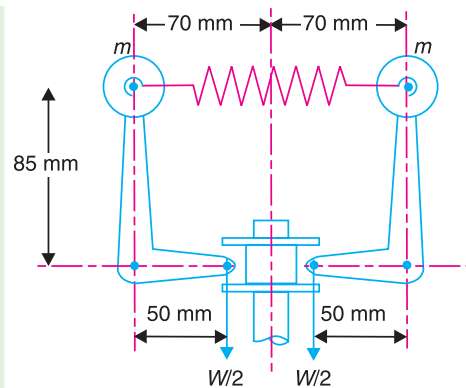

Fig. 18.22.
**Example 18.18.** Fig. 18.22 shows diagrammatically a centrifugal governor. The masses 'm' are directly connected to one another by two parallel and identical close coiled springs, one on either side. In the position shown, with the mass arms parallel to the axis of rotation, the equilibrium speed is 900 r.p.m. Given ball circle radius = 70 mm ; length of ball arm = 85 mm and length of sleeve arm = 50 mm.